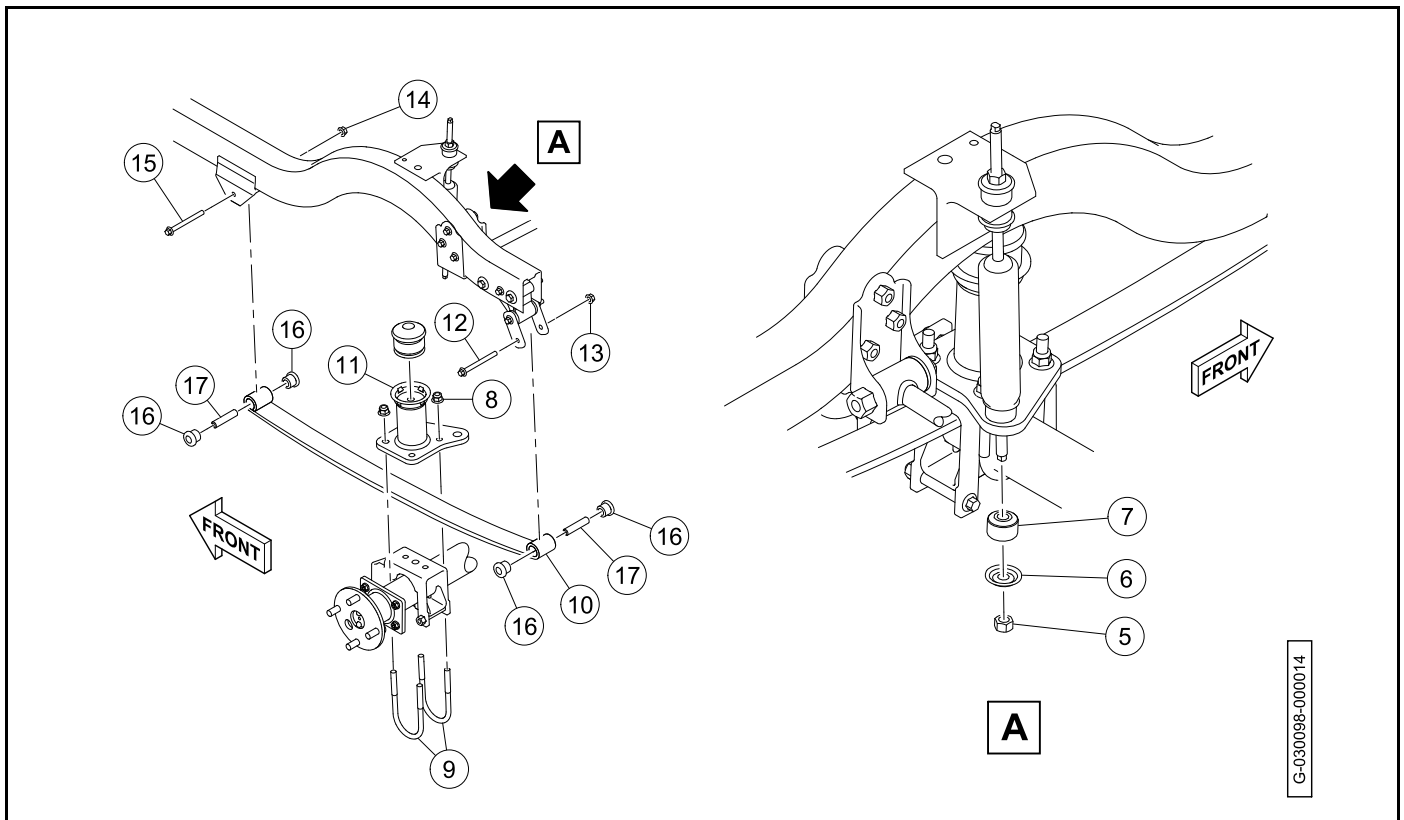

Figure 9-18 Leaf Spring Removal (Lifted Four Passenger)
7. Remove the cable end (3) from the brake lever.
8. Remove the brake cable from the shock mount bracket (4).
9. Remove the nut (5), cup washer (6), and rubber bushings (7) from the lower mounting stem of the shock absorber (Figure 9-18, Page 9-15).